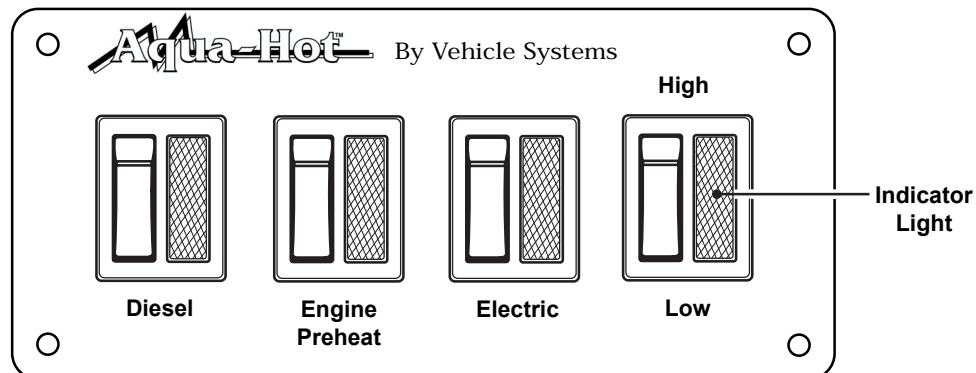

Figure 3
Turn the **Diesel** switch **ON**; reference **Figure 3**. This procedure will activate the Diesel-Burner and the indicator light located on the Diesel switch. Allow **10-20 minutes** for the Aqua-Hot System to reach operating temperature. Please note that the Diesel-Burner is the **primary heat source** for heating both the interior and the domestic hot water (such as when cool ambient temperatures exist and/or when there is a high demand for domestic hot water).
Turn the **Electric** switch **ON** in conjunction with the High / Low switch placed in the **LOW** position; reference **Figure 3**. This procedure will activate the 120 VAC / 1650 Watt Electric Heating Element and the indicator lights located on both the Electric and High / Low switches. Allow **1-2 hours** for the Aqua-Hot System to reach operating temperature.
Turn the **Electric** switch **ON** in conjunction with the High / Low switch placed in the **HIGH** position; reference **Figure 3**. This procedure will
- A.** Turn the Aqua-Hot's **Engine Preheat** switch **ON**; reference **Figure 3**. This procedure will activate the Engine Preheat Circulation Pump and circulate the engine's coolant through the Engine Preheat System. This feature will adequately warm the engine for easy start-ups on cool mornings.
- Reference Figure 3 for all numbers indicated in parentheses. (e.g., #8)